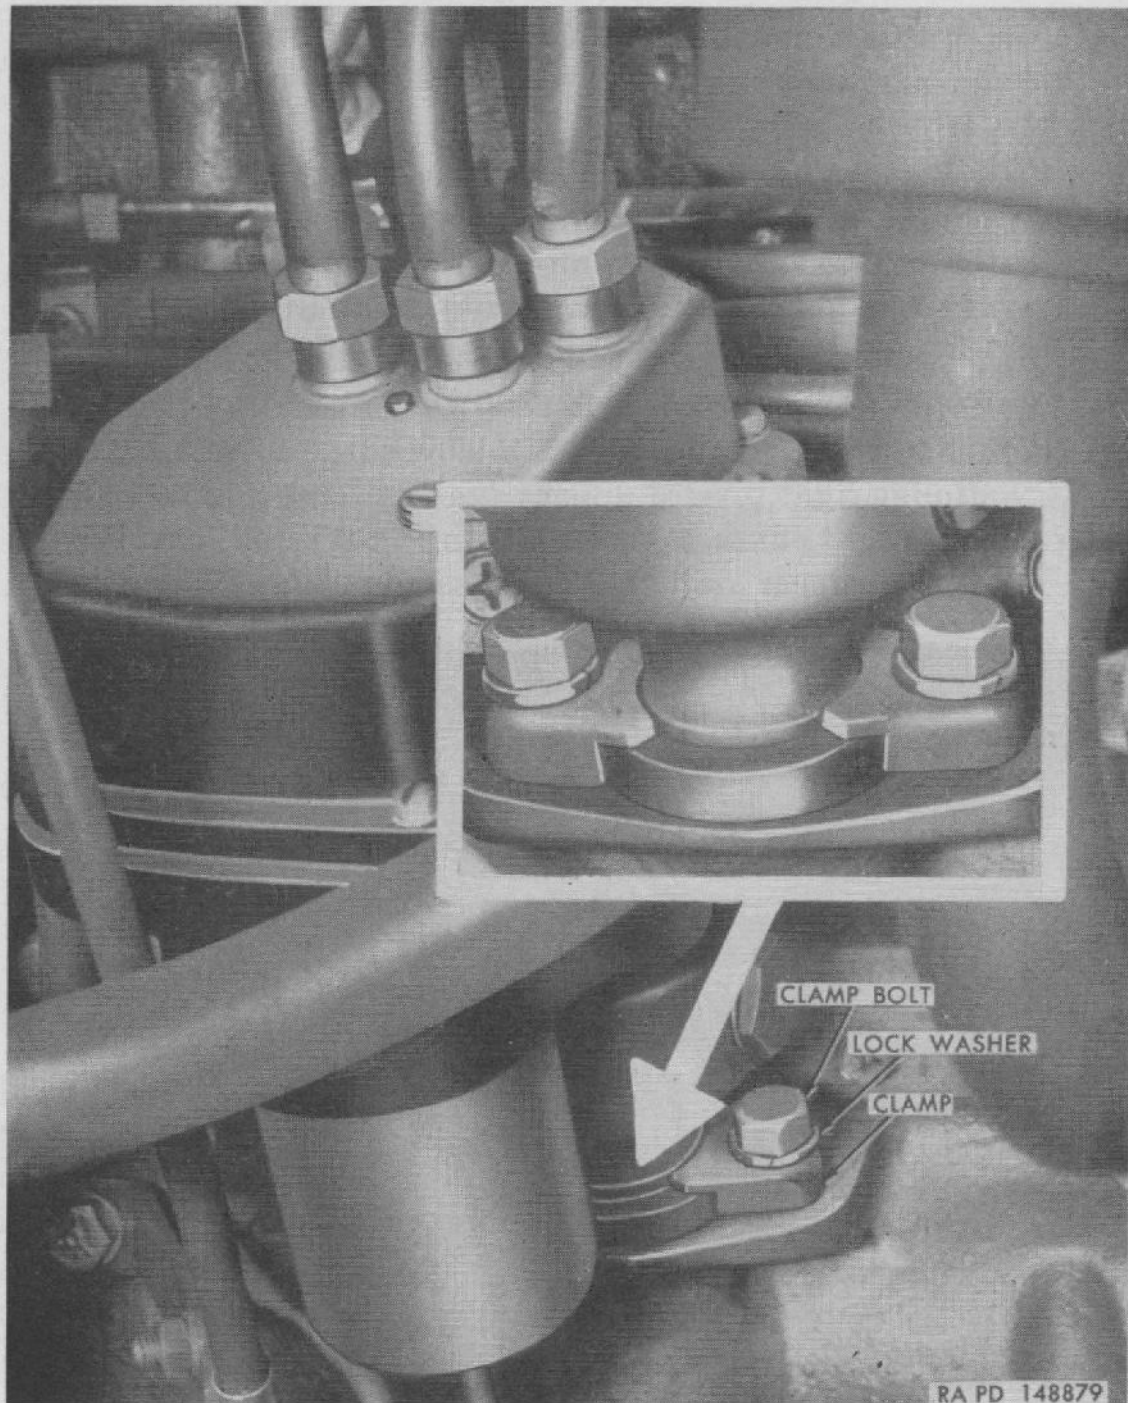
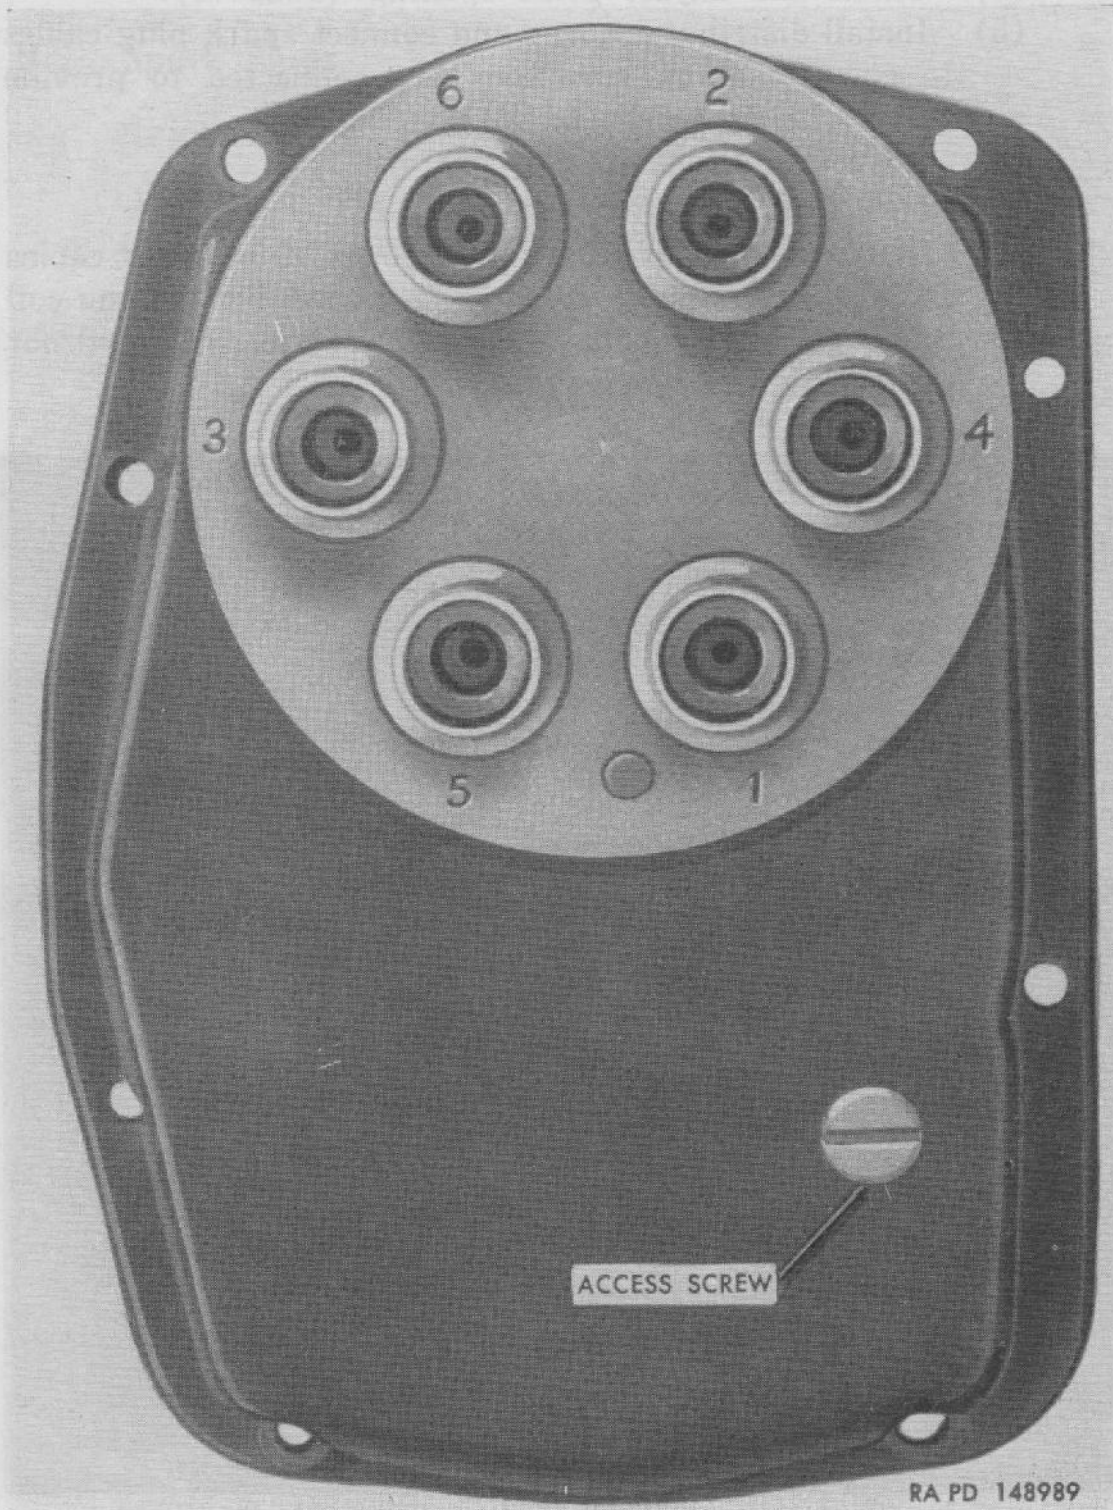
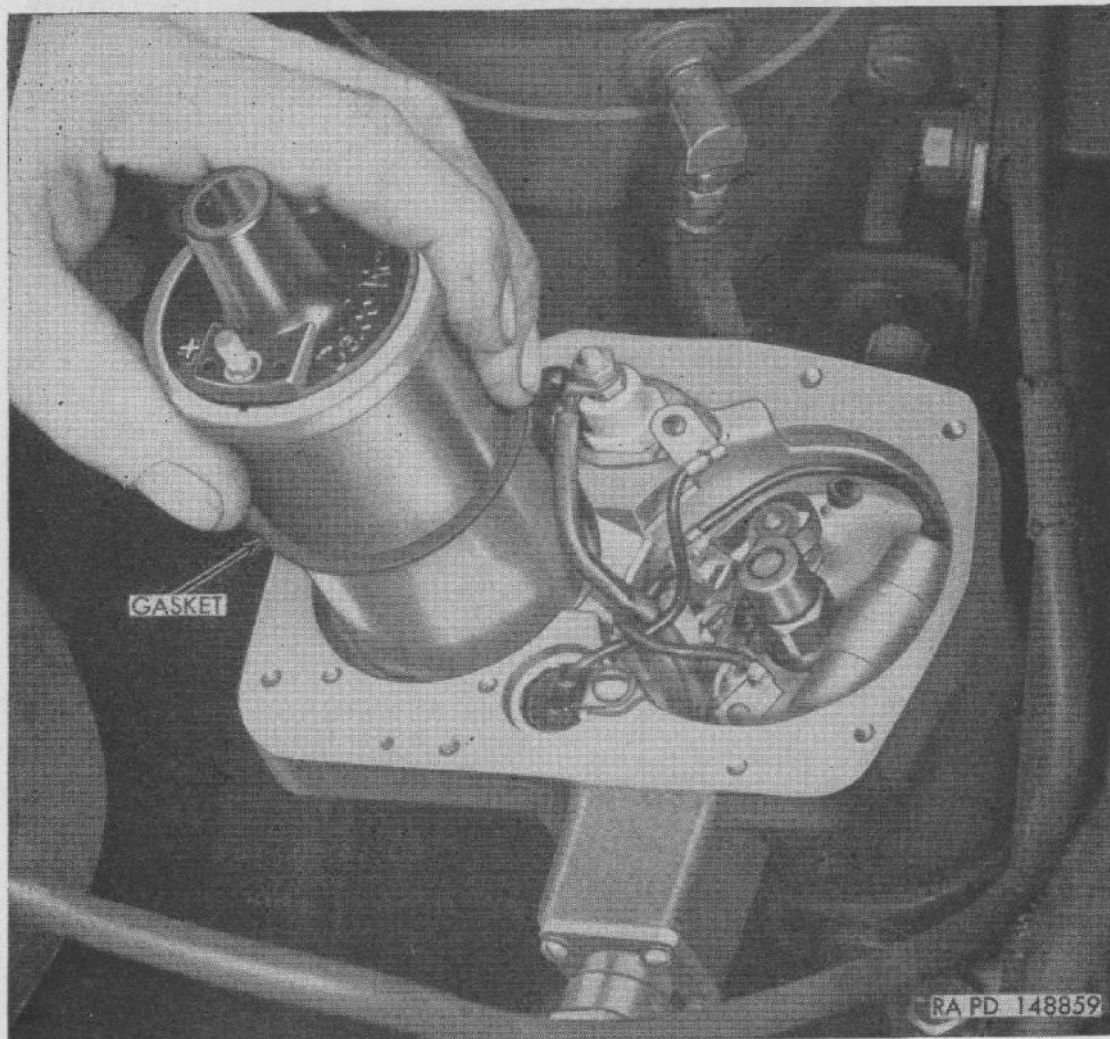

Figure 47. Distributor mounting clamps and bolts.
Figure 51. Top view of distributor cover showing firing sequence.
Figure 52. Removing or installing ignition coil.
(fig. 47) and turn distributor housing clockwise or counterclockwise as necessary to synchronize flashes with timing mark when it is alined with pointer. Tighten distributor clamp bolts.
- (2) A slight amount of ping is not objectionable. If knock is excessive, loosen distributor clamp bolts, (fig. 47) and turn distributor housing clockwise slightly until knock is minimized. Tighten distributor clamp bolts.
- (4) Disconnect air vent and vacuum lines from fittings at rear side of distributor body. Remove two clamp bolts and clamps attaching distributor housing to cylinder block (fig. 47).
- (5) Carefully lift distributor straight out of cylinder block, observing that rotor turns clockwise a few degrees as gears disengage; mark this position of rotor on distributor housing.
- (3) Install clamps and clamp bolts securing distributor to cylinder block (fig. 47). Connect air vent and vacuum lines to distributor. Connect primary circuit cable to distributor.
- (4) Check and adjust point opening (*a* above).
- (5) Install distributor cover and connect spark plug cables to cover, making sure they are connected to provide correct firing order (fig. 51).
- (6) Adjust ignition timing (par. 107).
- f. IGNITION COIL REPLACEMENT (fig. 52).
- (1) *Removal.* Remove distributor cover. Disconnect cables from coil terminals. Remove four screws attaching coil clamp plate to housing and remove plate. Lift coil out of housing and remove gasket.
- (1) *Idling speed adjustment.* Remove access screw from top of ignition distributor cover (fig. 51), install an adapter in place of screw and attach tachometer clamp to adapter. With transmission control lever in neutral and engine temperature within normal operating range (160° to 220° F), turn idle speed adjusting screw so engine idles at 375 rpm. Remove tachometer clamp and adapter. Install access screw.
- (2) *Idling mixture adjustment.* Connect electric tachometer at ignition distributor as described in (1) above. Remove pipe plug from special elbow in intake manifold below carburetor and attach vacuum gage. Start engine and run until engine temperature reaches